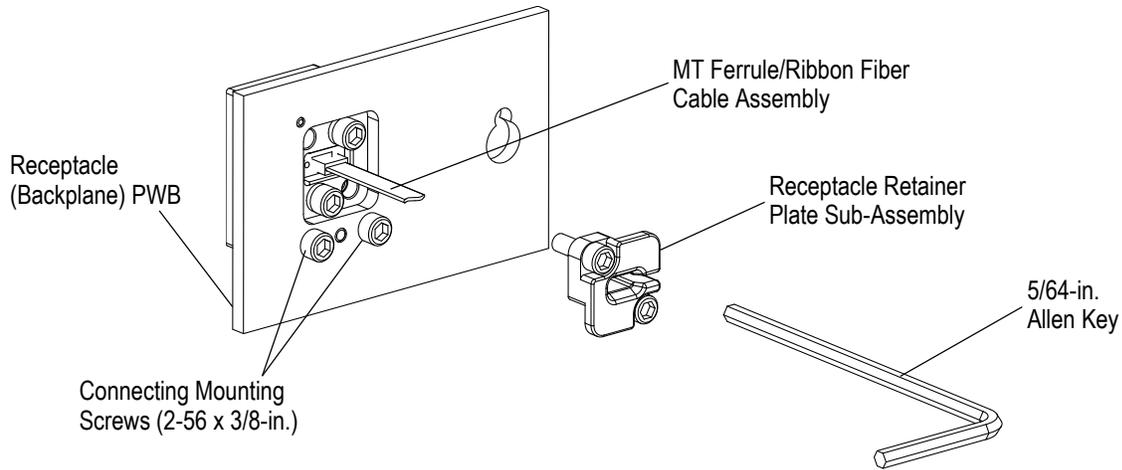

Figure 13
**B. Receptacle (Backplane) Connectors** (Figure 13)